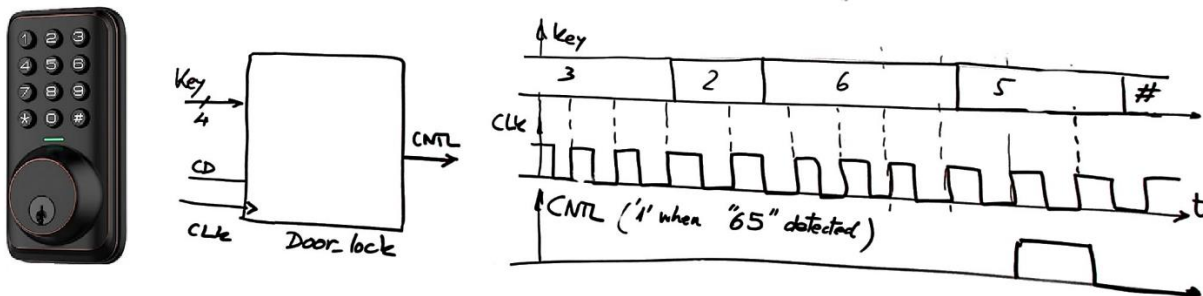

Fig. 7.
7. Using our FSM or dedicated processor strategies, invent a digital door lock as represented in Fig. 7 that opens a door (CNTL = '1') only when the secret code "65" is detected. Specifications (symbol, timing diagram, state diagram) and plan. Determine the number of VHDL files required.